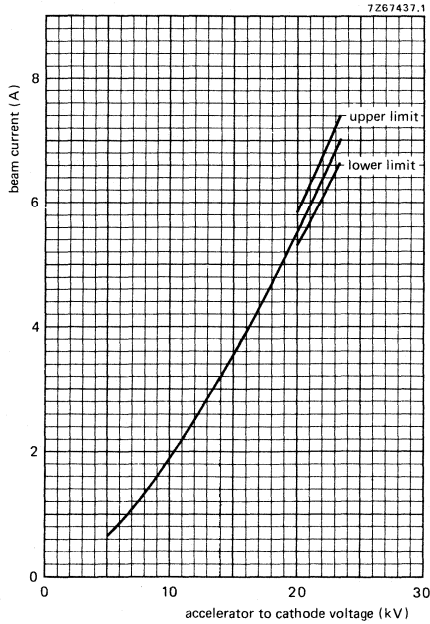

Fig. 4.
8. If the accelerator electrode is connected to the body (ground) via a 10 k $\Omega$  resistor, the beam current is within  $\pm$  5% of the value given in the graph of Fig. 4.